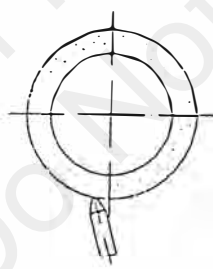

Fig. 6-14
- (2) When the diamond is being worn by grinding, turn it over to preserve its sharpness (see Fig. 6-14).